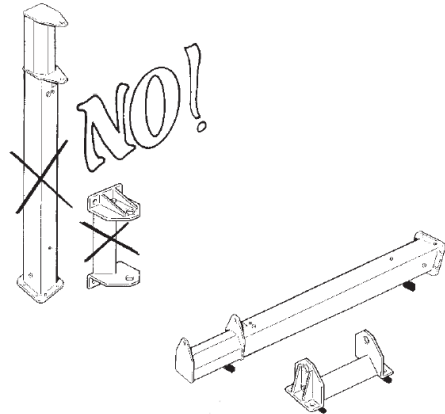

fig.12
- **All parts or components must be set down or fixed in a stable way in all phases of handling, transport and storage and they must not be tilted or laid down in a vertical position or on one side (fig 12)..**